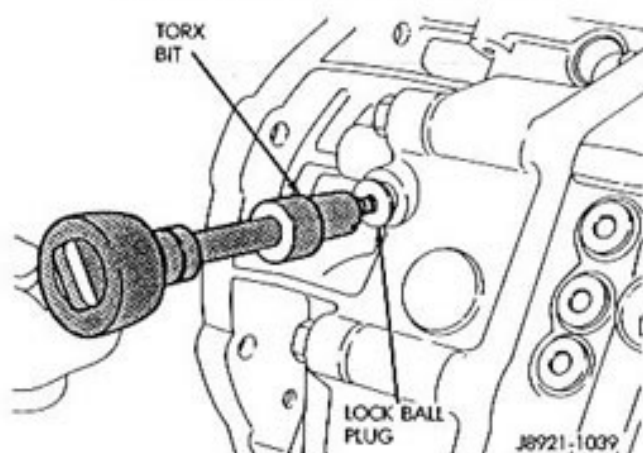

Fig. 9 Removing/Installing Lock Ball Plug
- (10) Remove the plug for the reverse shift head lock ball. The plug is at the right side of the adapter housing near the backup light switch (Fig. 9).